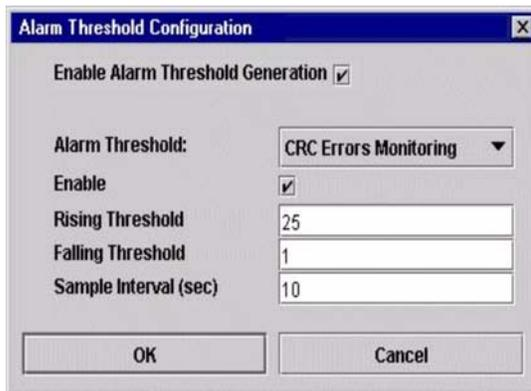

Figure 14. Alarm Threshold Configuration window . 3.
2. The Alarm Threshold Configuration window shown in Figure 14 on page 107 prompts you to select an event, set thresholds, set a sampling interval, and enable or disable the alarm.